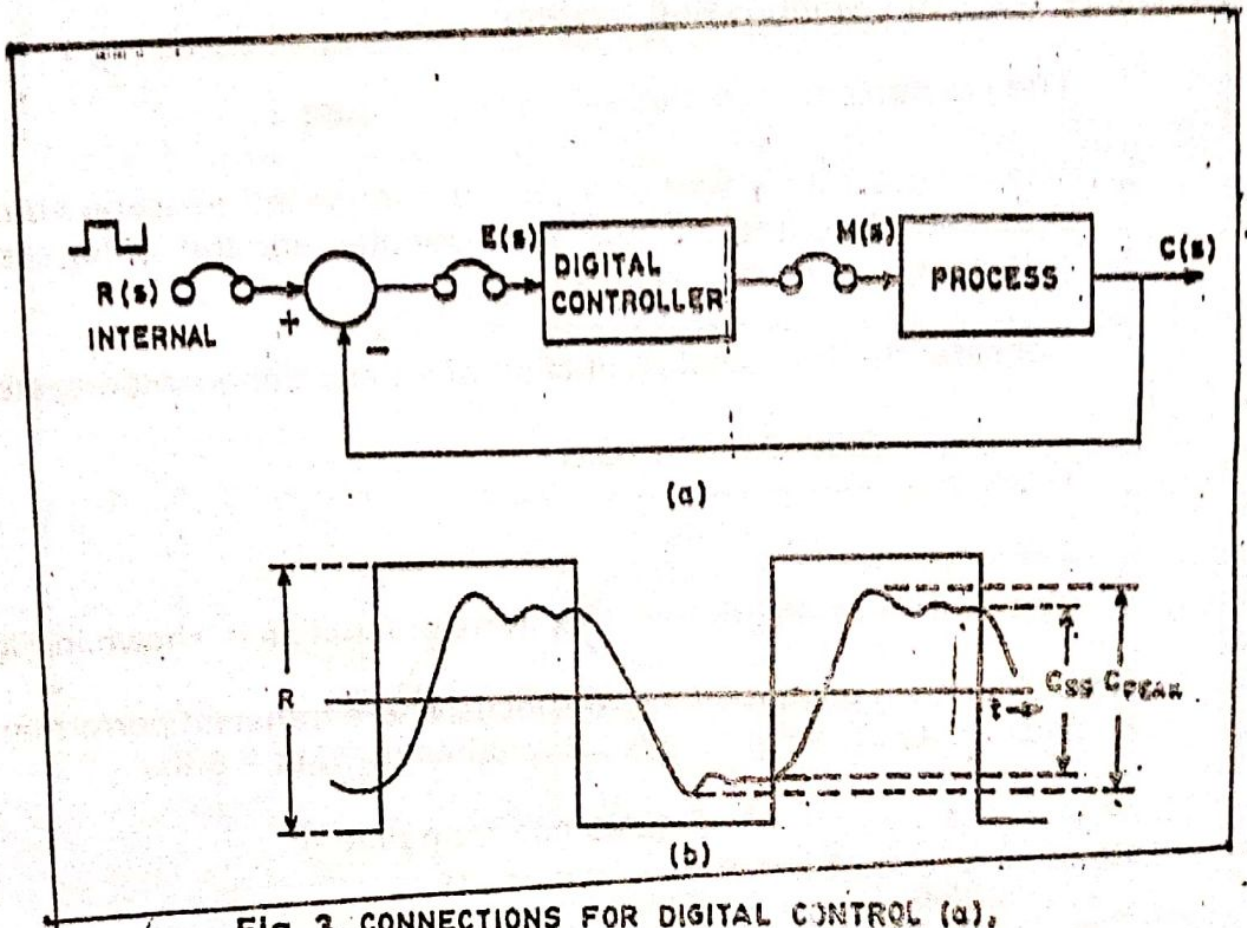

Fig. 3. CONNECTIONS FOR DIGITAL CONTROL (a), AND RESPONSE MEASUREMENTS (b)
1. The connections are made as per the figure 3.
5. The above steps from 2 to 4 are repeated for different forward gains (P) and delay settings (1,2,...) and the results are tabulated.